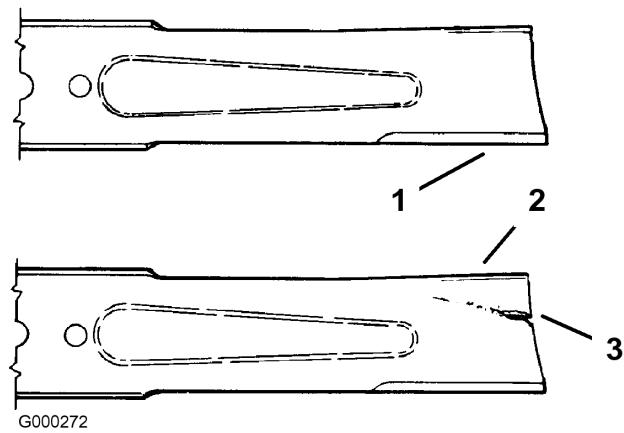

Figure 57
2. Inspect the blades, especially the curved area (Figure 57). If you notice any damage, wear, or a slot forming in this area (item 3 in Figure 57), immediately install a new blade.
1. Inspect the cutting edges (Figure 57). If the edges are not sharp or have nicks, remove and sharpen the blades. Refer to Sharpening the Blades.